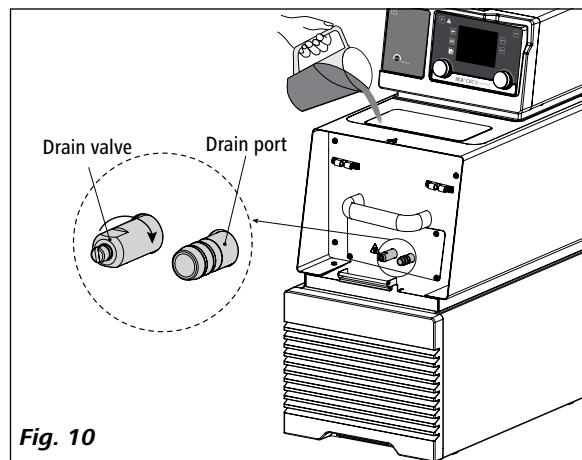

Fig. 10
- Check and make sure that the drain valve is closed (Rotate clockwise to the stop position, see Fig. 10).